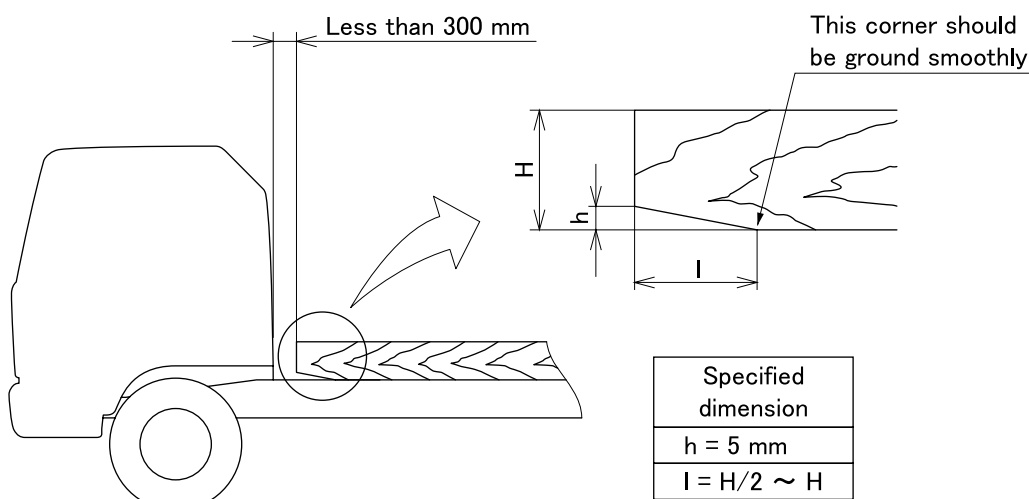

Fig. 4
- When using a wooden block as a mounting frame, shape its front end as shown in Fig. 4 so that no stress concentration may occur between the front end of the mounting frame and the chassis frame.